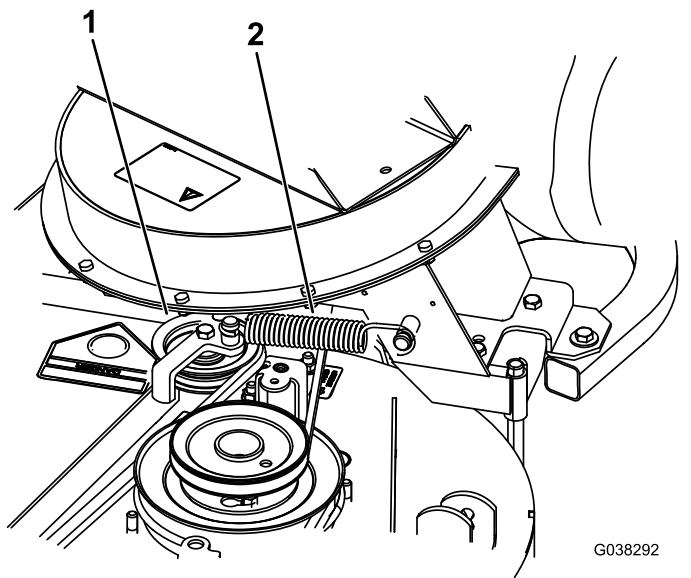

Figure 49
8. Install the spring as shown in Figure 49.
9. Install the belt onto the spring-loaded idler pulley (Figure 49).